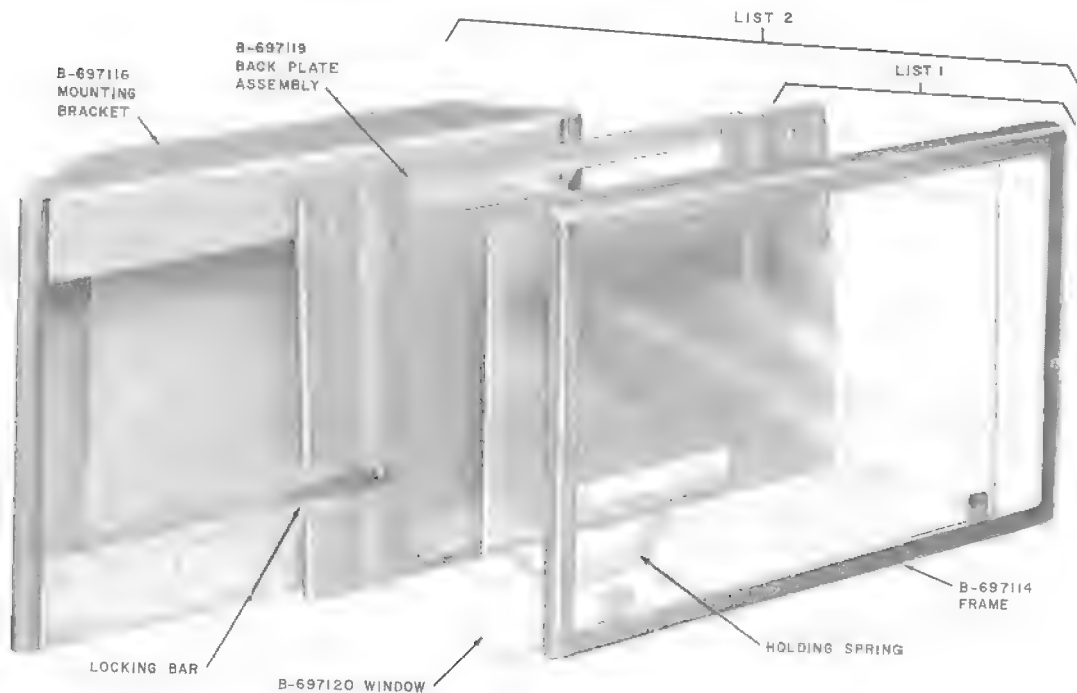
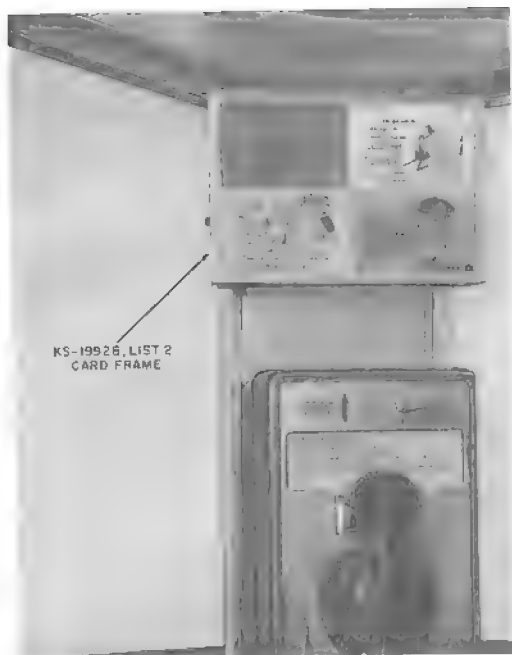

Fig. 1 — KS-19928 Card Frame
Fig. 3 — KS-19928, List 2 Card Frame Mounted in Corner of Telephone Booth
1.01 The KS-19928 card frame (Fig. 1) is a universal card frame used to display a 7 by 10-1/4-inch advertising or instruction card in public telephone booths.
1.05 KS-19928, List 2: Consists of the same items as List 1 plus a 2-inch thick wedge-shaped mounting bracket (B-697116) (Fig. 1) used for mounting the card frame in the corner of KS-14611, KS-19425, and KS-19580 telephone booths (Fig. 3).